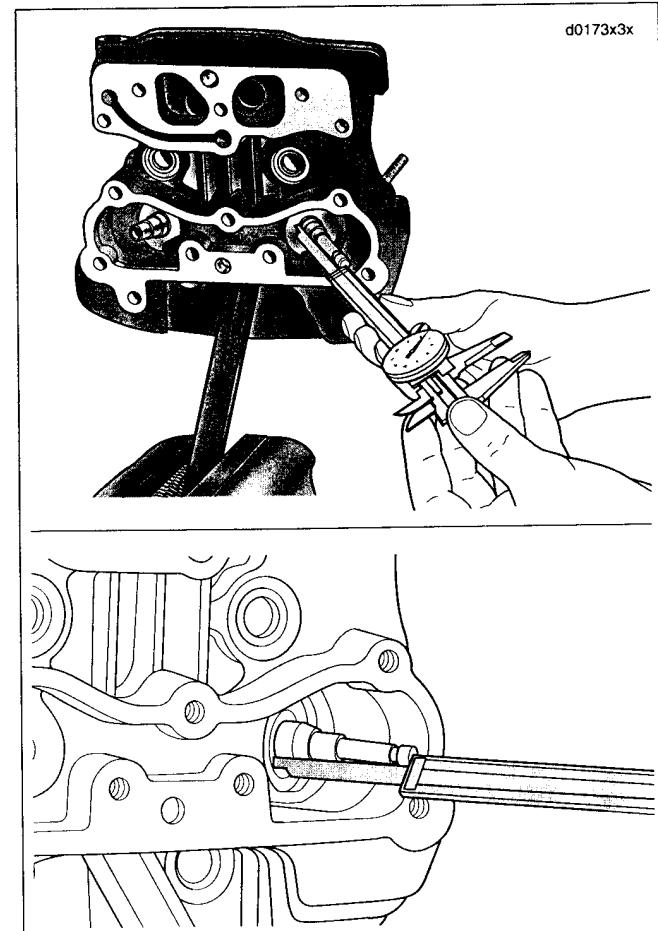

Figure 3-100. Checking Valve Stem Protrusion
- 2. See Figure 3-100. Measure valve stem protrusion. Seat wear causes the valve stem protrusion to change.